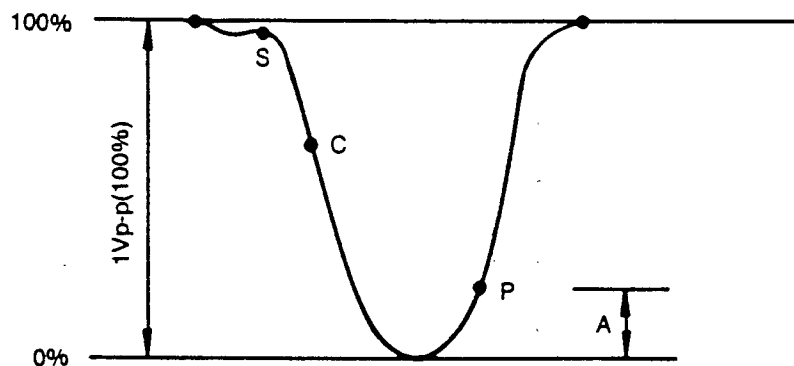

Figure 10 L104 Alignment Waveform
2. Adjust L104 at main board so that the waveform should be as shown in figure 10.
6. Rotate and spread the tabs of the purity magnet (See figure 10) around the neck of the picture tube until the green belt is in the center of the screen. At the same time, center the raster vertically.